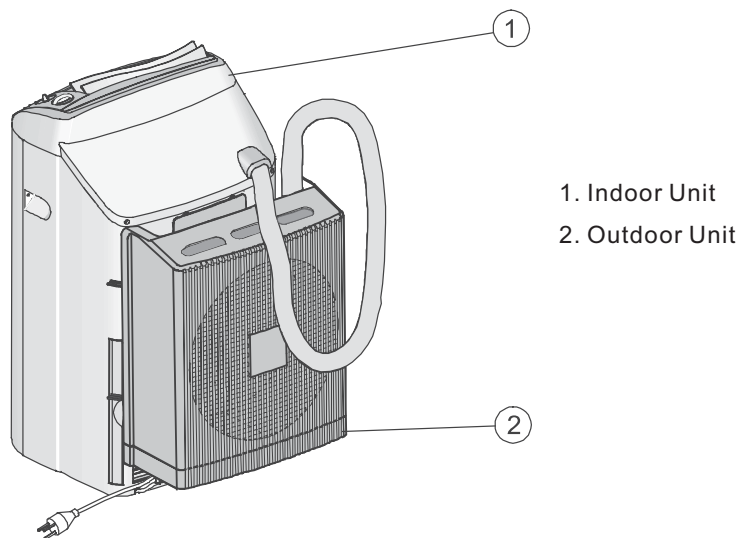

Figure 25. Units joined for moving - Model 3.1 KW (R407C) only
### ❑ MOVING AND STORING - ALL MODELS (See Figure 25)
The indoor and outdoor units should be joined together (Figure 25) when moving or storing the air conditioner. To join the units, insert attaching pins (10) of the outdoor unit into the key holes (2) of the indoor unit (see Figure 3).